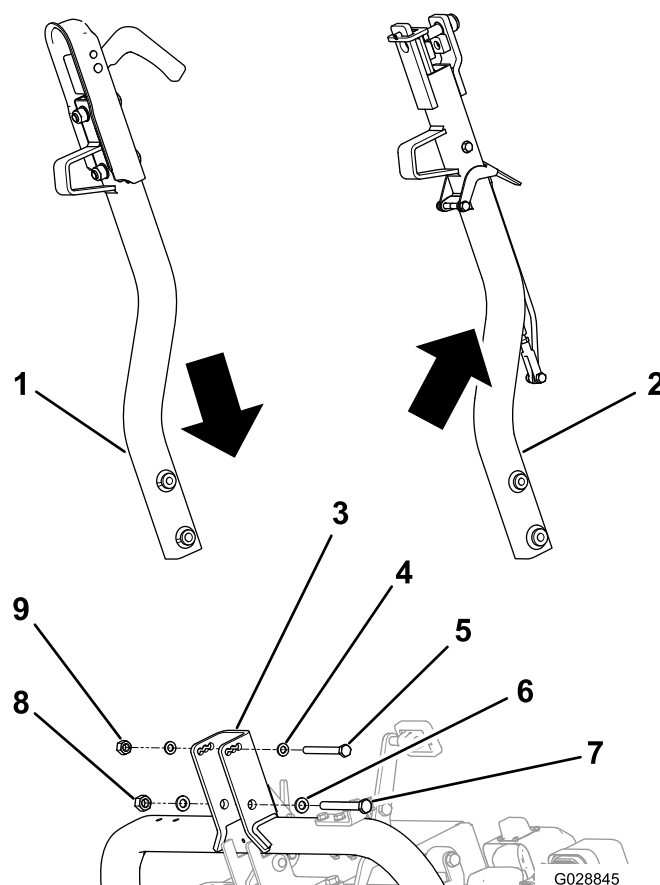

Figure 1
1. Remove the bolts, washers, and locknuts securing the existing hitch, and remove the hitch (Figure 1).